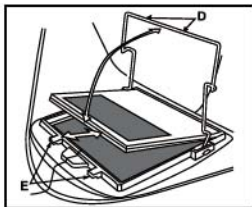

Fig. 6a
• CHANGING THE SHADE CARTRIDGE. (see Fig. 6a & 6b).